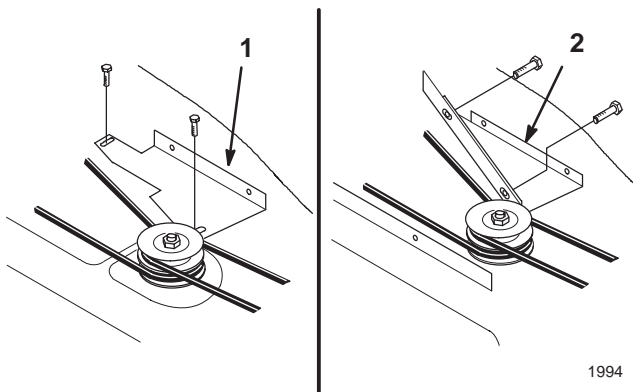

Figure 32
2. Unhook the blower belt from the mower pulley and remove the belt (Fig. 32).
3. Remove belt cover bracket (Fig. 32).